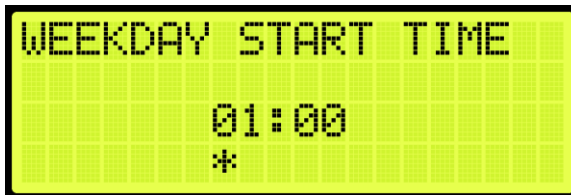

Figure 168: WEEKDAY START TIME Menu
8. From the WEEKDAY START TIME menu, set the start time of the hall call security (See Figure 168).